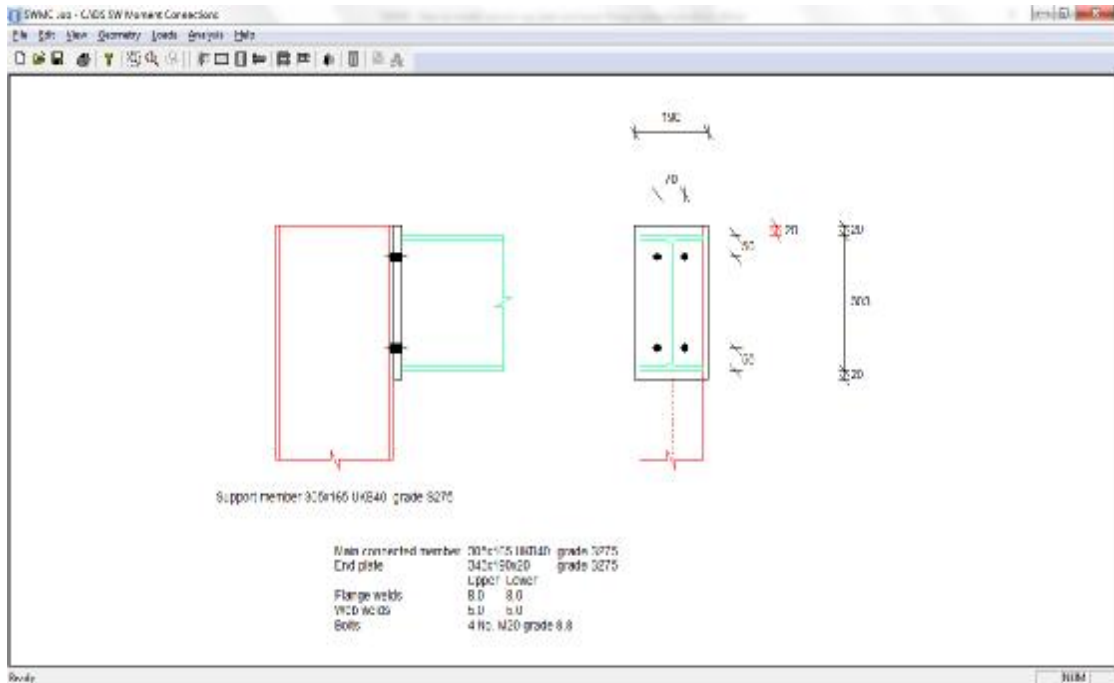

Fig 4.6: Default connection main view.
- The main view displays the selected connection arrangement with default 305x165UKB40 sections for both the members as shown in fig 4.6.